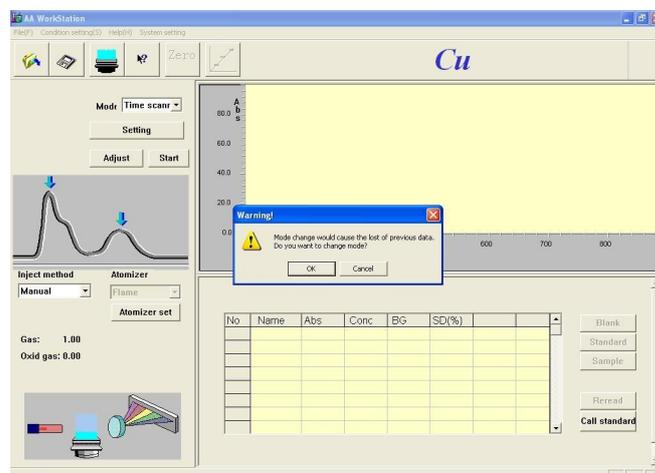

Figure 9-14
3. Select "Time scanning" in the "Mode" pull-down list, as shown in Figure 9-14.